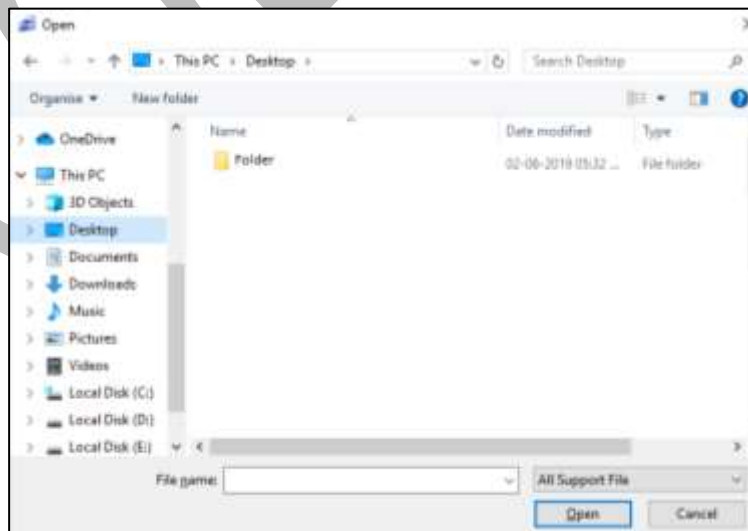

Fig 23: Displaying the Open Dialog Box
**Step 1:** Click on the **Open File** icon on the **Operation** screen (Refer to Fig 23). The **Open** dialog box appears on the screen, as shown below:
**Step 3:** After selecting the file, click on the **Open** button (Refer to Fig 23). The **Properties** dialog box appears with printing options of the selected image file.